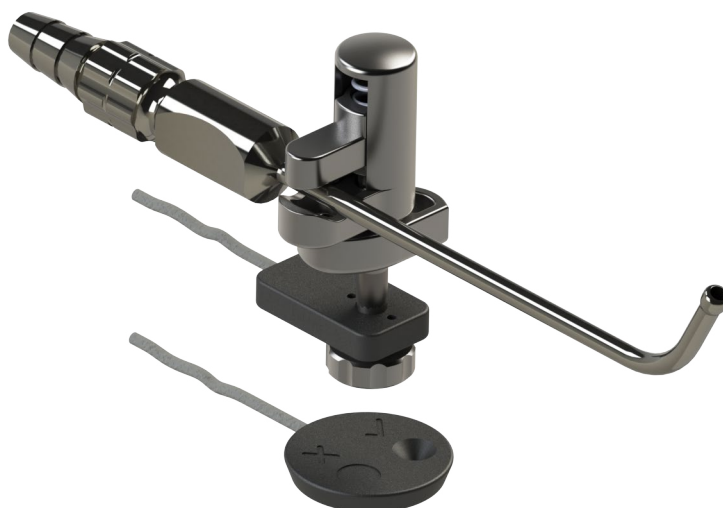

Figure 131 Hold the tracker up-side down over the patient tracker to reset calibration
2. A calibration can be reset by holding an active tracker upside down on top of the patient tracker as shown below (Figure 131). Alternatively, the status icon of the tracker can be clicked to open the reset dialog.